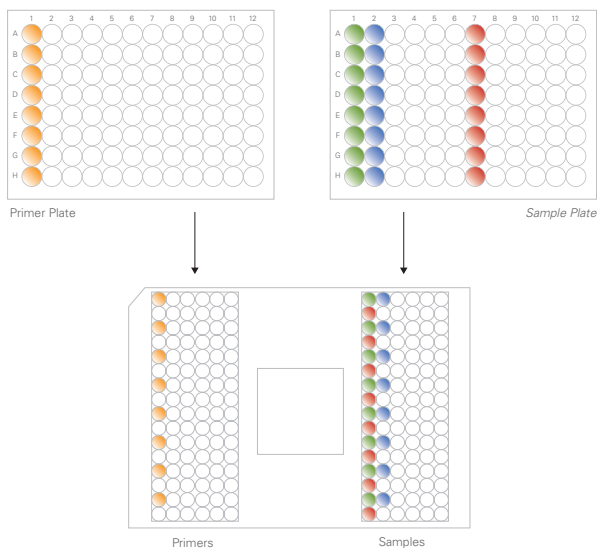

Fig 3. Loading of samples and primers to the 96:96 Dynamic Array IFC.
31. Transfer 5 μ L from each well of the *Sample Plate* to the primed 96:96 Dynamic Array IFC by using reverse pipetting. Change pipette tips after each sample. Samples are loaded into their respective inlets on the right side of the chip according to Figure 3. See appendix 1 for a detailed instruction on sample loading.
32. Gently remove the Primer Plate aluminum sealing to avoid contamination between wells. Transfer 5 μ L from each well of the Primer Plate into the inlets on the left side of the chip according to Figure 3 by reverse pipetting. Change pipette tips after each transfer.